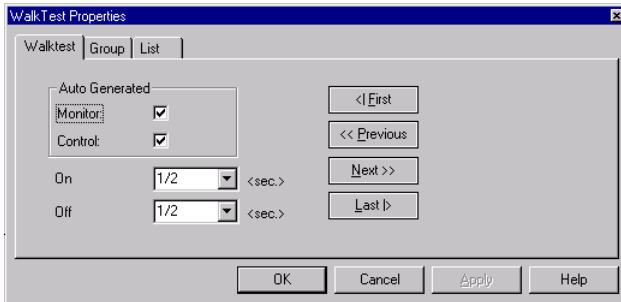

Figure 8-11. WalkTest Group Properties
- Double click on one of the WalkTest groups to view its properties window. (Alternatively, you can right click on the group and select Properties from the menu that appears.) A screen similar to the one shown in Figure 8-11 appears.